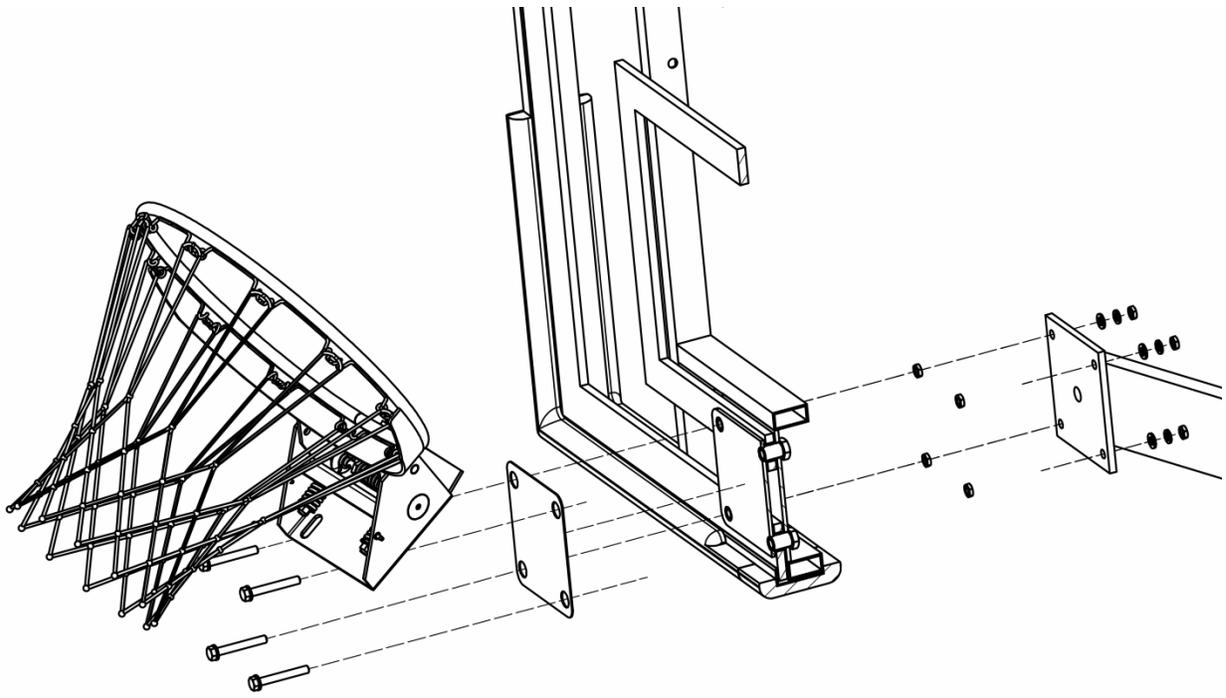

Figure 1 (Rectangular Backboard)
- b. Using the 4 sets of hex head bolt that fits the 5 inch by 5 inch hole pattern. Order of main part is rim, gasket, backboard and extension arm weldment, tie four items using the hex head bolt with washer thru rim and gasket. Into the backboard nut in the 5 inch by 5 inch hole pattern, use a hex nut to hold the rim and gasket to the backboard. Then lift the backboard on to the extension arm weldment 5 inch by 5 inch hole pattern. Finish this off with washers, lock washers and hex next, repeat till all four set of hardware is securely on ( see figure 1&2).